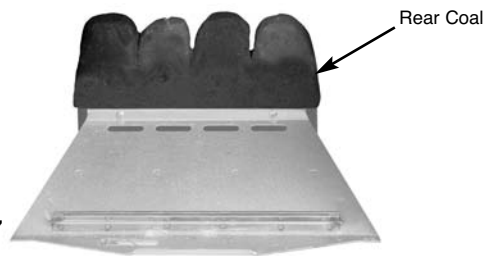

Fig. 37
1. Place the rear coal on the rear coal retainer ledge in a central position (Fig. 37).